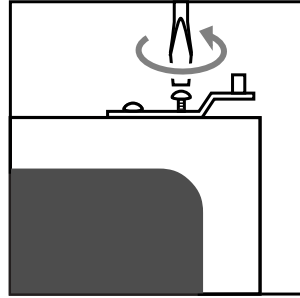

fig. 8b
- Remove the hinge that is now at the top (see fig. 8b). Attention: the ring belongs in the lower hinge.